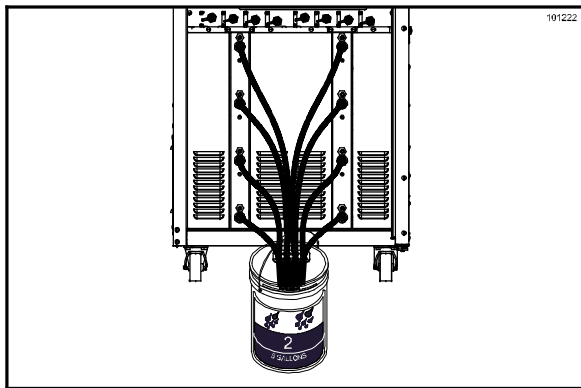

Figure 93
40. Remove the free end of the cleaning tubes from the pail of cleaning solution and place them into the pail of rinse water. (See Figure 93.)